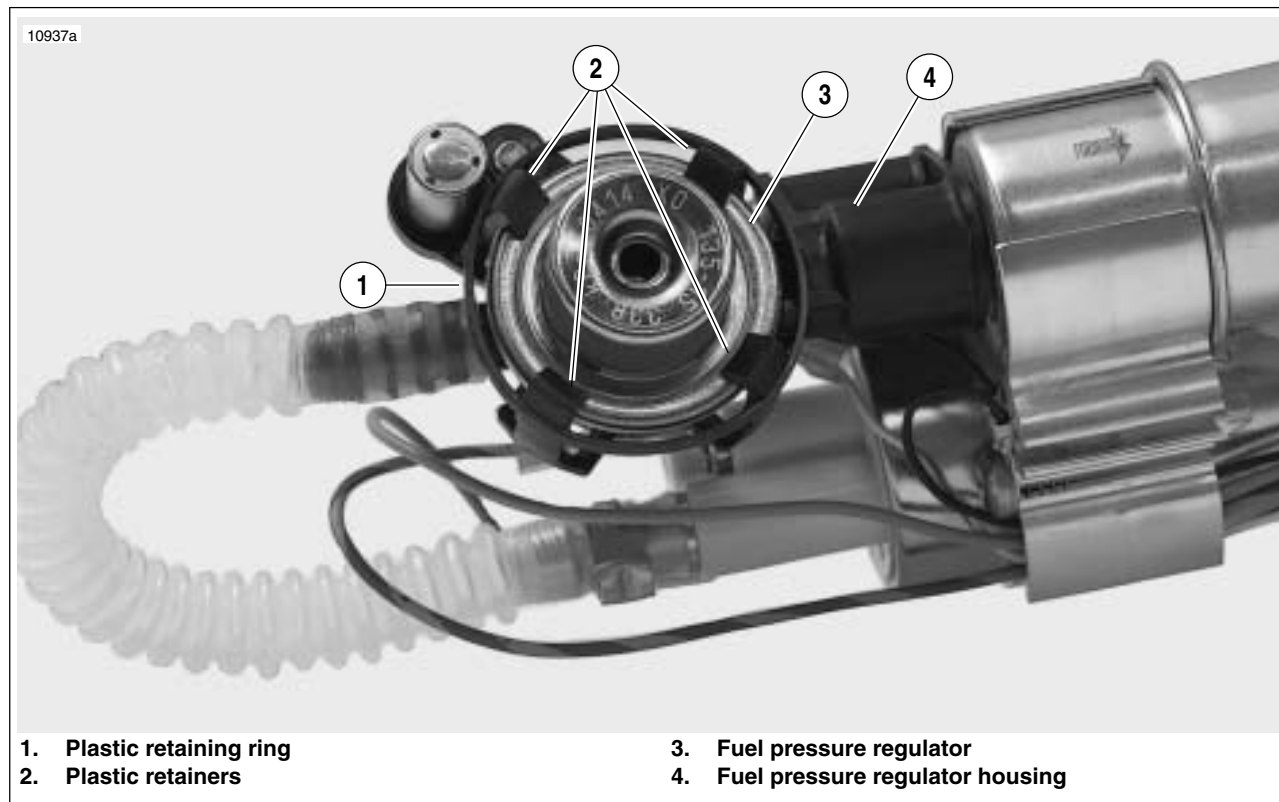

Figure 4-97. Fuel Pressure Regulator
2. See Figure 4-97. Remove the plastic retaining ring (1) securing the four plastic retainers (2) holding the fuel pressure regulator (3) in place. Spread the four clips and detach regulator (3) from regulator housing (4).
5. Install plastic retaining ring (1).